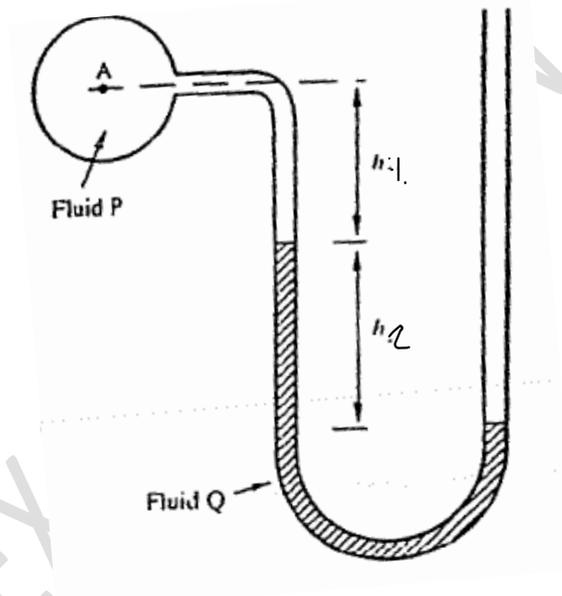

Figure Q1c
- c) In **Figure Q1c** fluid P is water and fluid Q is mercury. If the specific gravity of mercury is 13.6 times that of water and the atmospheric pressure is 101.3 kPa what is the absolute pressure at A when  $h_1 = 20$  cm and  $h_2 = 35$  cm.